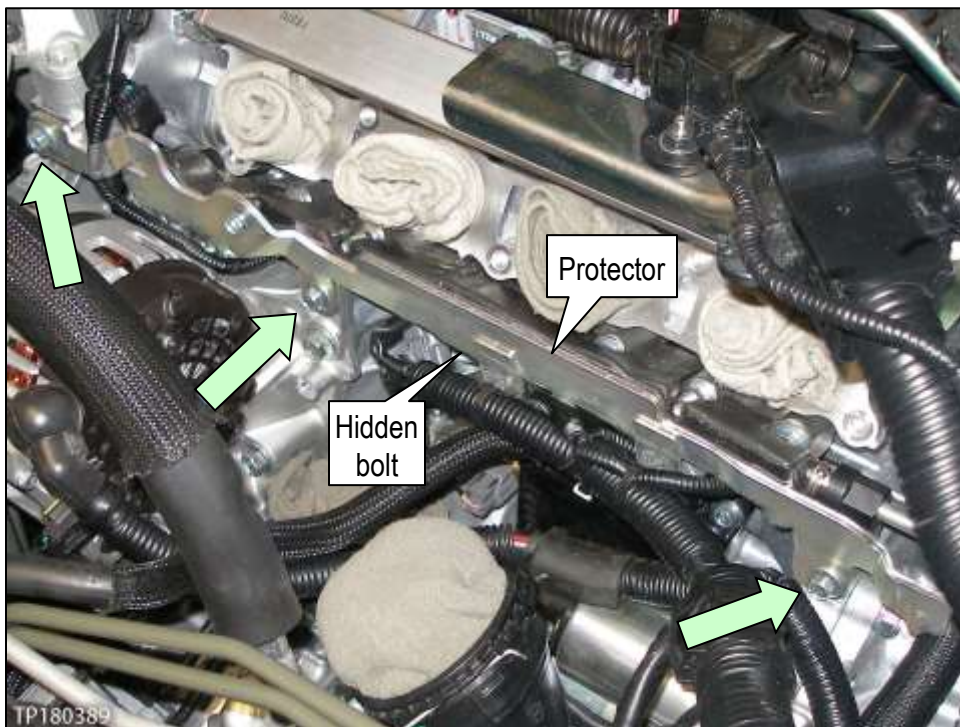

Figure 35
- b. Remove the four (4) bolts (see arrows and callout in Figure 35).